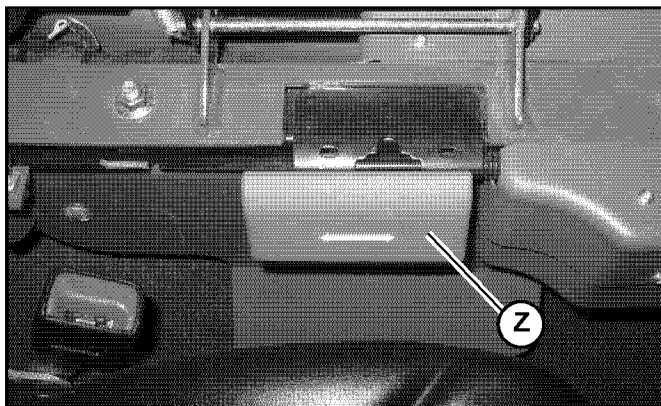

Fig. 28 – Armrest/Joystick Console Adjustment
To adjust armrest/joystick console position, lift slide lock (Z, Fig 28) and slide armrest/joystick console to the desired position. Release slide lock (Z) to lock the armrest/joystick console in place.